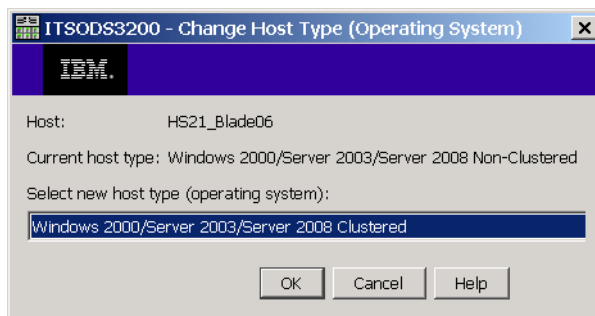

Figure 11-11 Edit Topology - Change Host Type
Every host has an associated host type, indicating the operating system installed. The Host Type Change button allows you to change this host type. Select the host in the Host topology view and click **Change**. The new window shows the host name and the current host type; you can select the new host type in a drop-down menu. Select the appropriate choice and click **OK** to make the change (Figure 11-11).
**Note:** In the previous version of DS3000 firmware (6.xx), you had to change the host type on every single host port (HBA) of the changed host. In redundant configurations (recommended), you have at least two host ports in one system, so you had to change the host type of every host port that was installed in this host server. Starting with Version 7.35 of the DS3000 firmware, you change the host type of the host server only, as shown in Figure 11-11 on page 228.